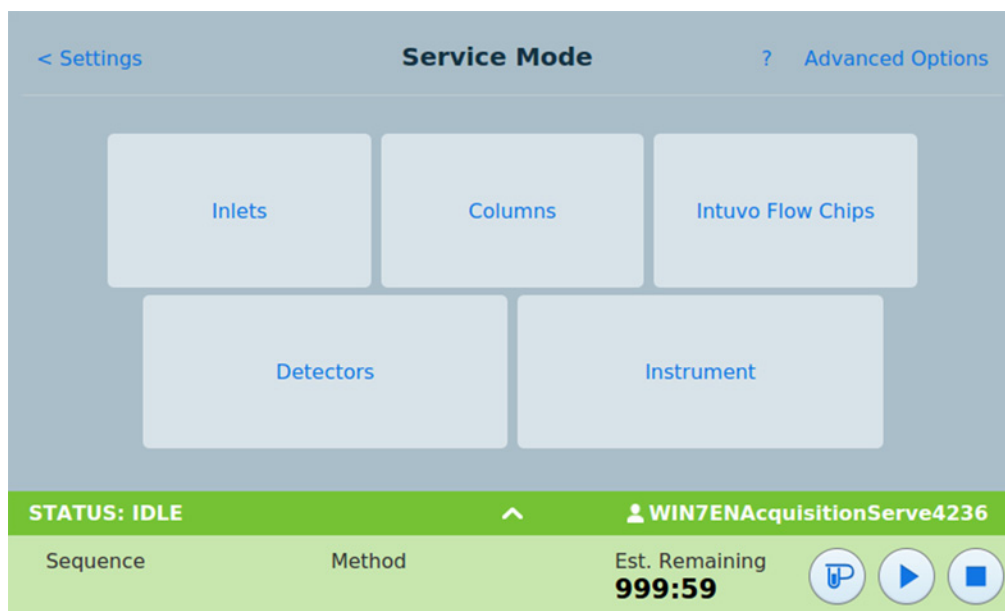

Figure 35 Service Mode page
- 2 Press **Service Mode**. The Service Mode page appears. See Figure 35.